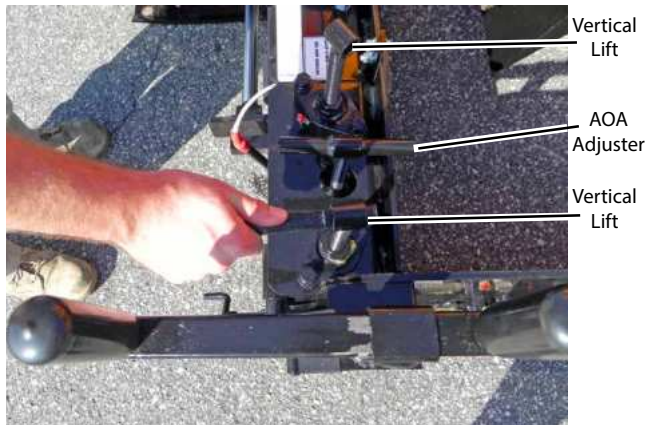

Figure 4-69. One-Foot Screed Extension
4. When both are installed, set wearplates flat with the main extension using the vertical lift adjusters and AOA adjuster. **(Figure 4-69)**